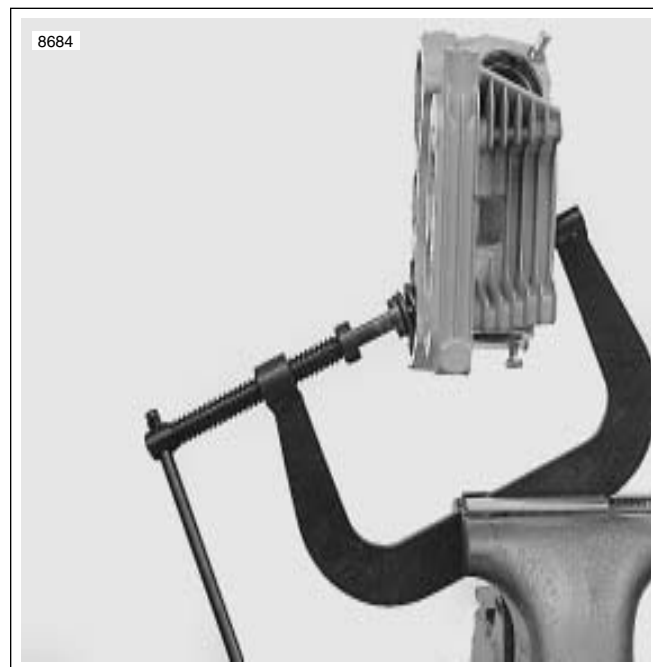

Figure 3-79. Valve Spring Compressor (Part No. HD-34736B)
9. See Figure 3-79. Compress spring with VALVE SPRING COMPRESSOR (Part No. HD-34736B).